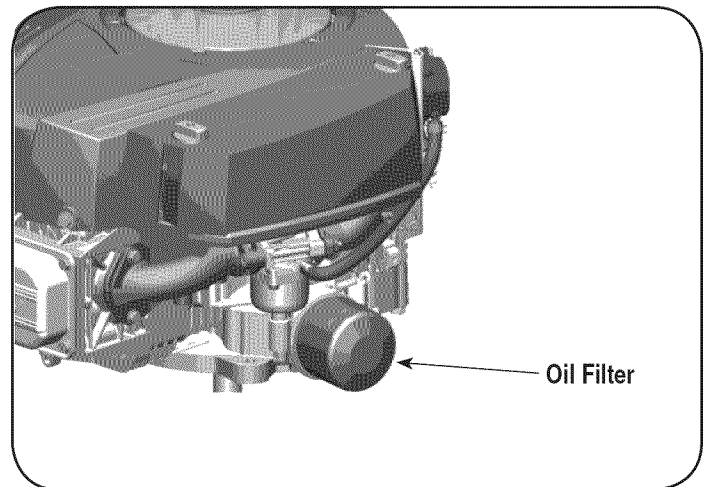

Figure 10
2. Remove the oil filter and dispose of properly. See Figure 10.